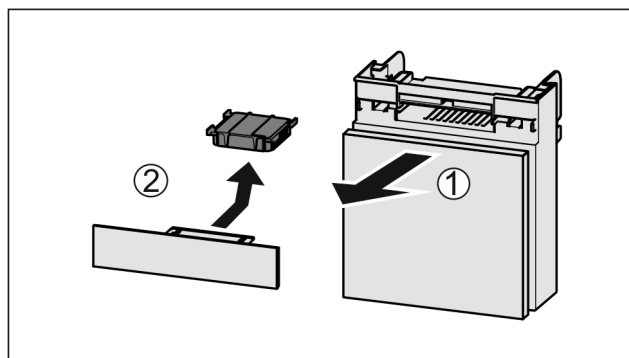

Fig. 245
- ▶ Pull out the compartment Fig. 245 (1).
- ▶ Remove the carbon filter Fig. 245 (2).